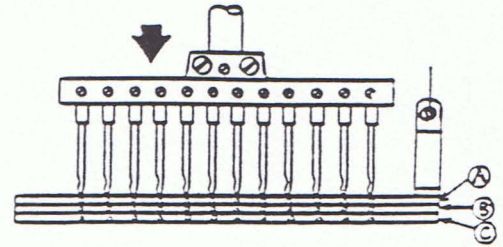

Fig.22
a) Synchronizing needle bar and spreader (Fig. 22)
Retighten screw A and nut C securely. The location of eye of spreader should be aligned in front of needle as shown Fig.22. Loosen screw A Fig.22 so that required position of spreader can be attained.